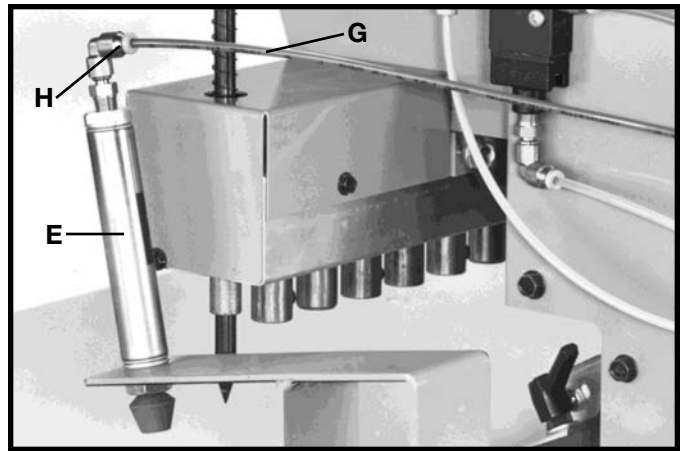

Fig. 33
4. Insert red air lines (G) Fig. 33, into air fittings (H) located on top of each air cylinder clamp (E). Push end of air line (G), as far as it will go into fitting (H).